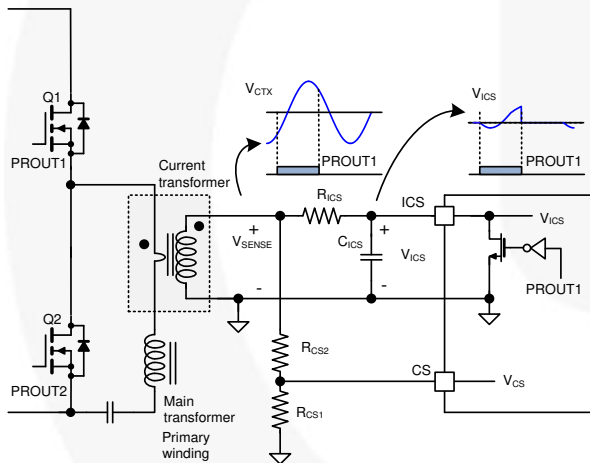
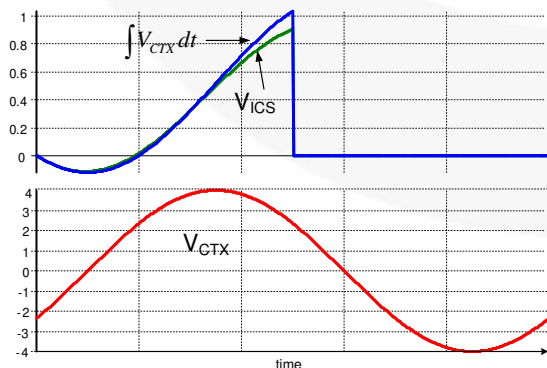
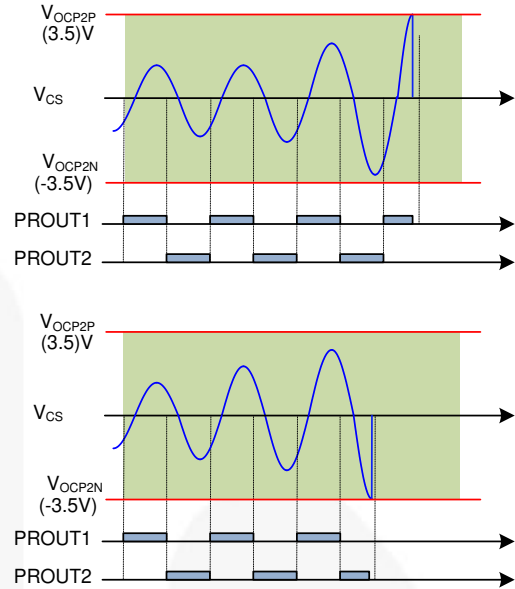

Figure 61. Current Sensing of FAN7688
Figure 62. Generating the Integral Signal (V_{ICS}) from V_{SENSE}
Figure 66. Over-Current Protection of the CS Pin
FAN7688 senses instantaneous switch current and the integral of the switch current as illustrated in Figure 61. Since FAN7688 is located in the secondary side, it is typical to use a current transformer for sensing the primary side current. While the PROUT1 is LOW, the ICS pin is clamped at 0 V with an internal reset MOSFET. Conversely, while PROUT1 is high, the ICS pin is not clamped and the integral capacitor (C_{ICS}) is charged and discharged by the voltage difference between the sensing resistor voltage (V_{SENSE}) and the ICS pin voltage. During normal operation, the voltage of the ICS pin is below 1.2 V since the power limit threshold is 1.2 V. The current sensing resistor and current transformer turns ratio should be designed such that the voltage across the current sensing resistor (V_{SENSE}) is greater than 4V at the full load condition. Therefore the current charging and discharging C_{ICS} should be almost proportional to the voltage across the current sensing resistor (V_{SENSE}). Figure 62 compares the VICS signal and the ideal integral signal when the amplitude of V_{SENSE} is 4 V. As can be seen, there is about 10% error in the VICS signal compared to the ideal integral signal, which is acceptable for most designs. If more accuracy of the VICS is required, the amplitude of V_{SENSE} should be increased.
- (1) Non-ZVS Prevention: When the compensation voltage (V_{COMP}) is higher than 3 V and V_{CS} peak value is smaller than 0.3 V, non-ZVS condition is detected, which decreases the internal compensation signal to increase the switching frequency.
- (2) Over-Current Protection (OCP2): When V_{CS} is higher than 3.5 V or lower than -3.5 V, over-current protection (OCP) is triggered. The instantaneous primary side current is also sensed on CS pin. Since the OCP thresholds on the CS pin are 3.5 V and -3.5 V as shown in Figure 66, the CS signal is typically obtained from V_{SENSE} by using a voltage divider as illustrated in Figure 61. 150 ns debounce time is added for OCP.